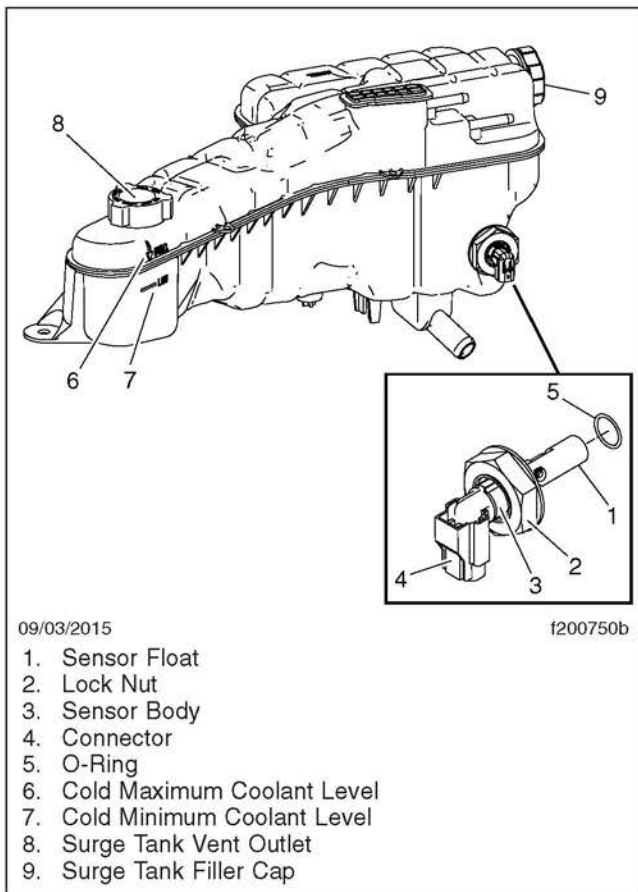
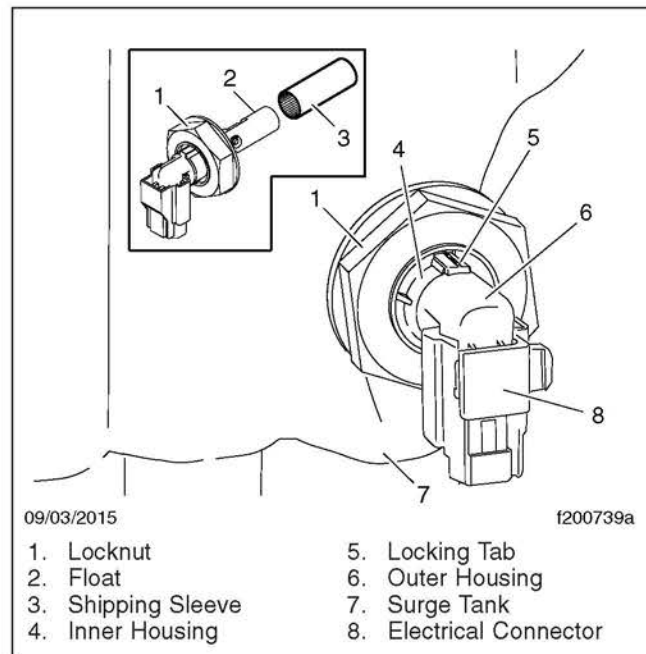

Fig. 1, low-coolant-level Sensor Installation
Fig. 2, low-coolant-level Sensor
3. Fill the surge tank to "COLDMAX". See Fig. 1.
The low-coolant-level sensor is located in the coolant surge tank on EPA07 and later vehicles. See Fig. 1. The low-coolant-level sensor is assembled with a two-piece housing held together with two locking tabs, one on the top and the other on the bottom. See Fig. 2.